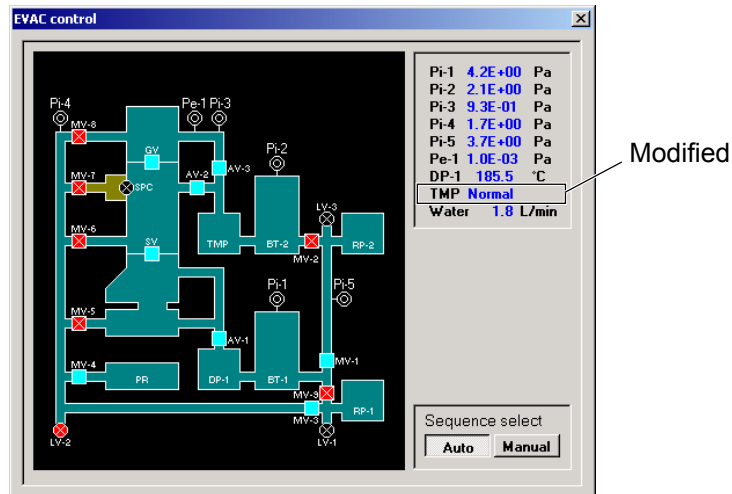

Fig. 3-157 Evac control Window (Dry evacuation version)
- (2) Figure 3-157 shows the EVAC control window of the Dry evacuation version (option). In the Dry evacuation version, the electron gun and microscope column are evacuated by the turbo molecular pump. The observation chamber and camera chamber are evacuated by the oil diffusion pump.